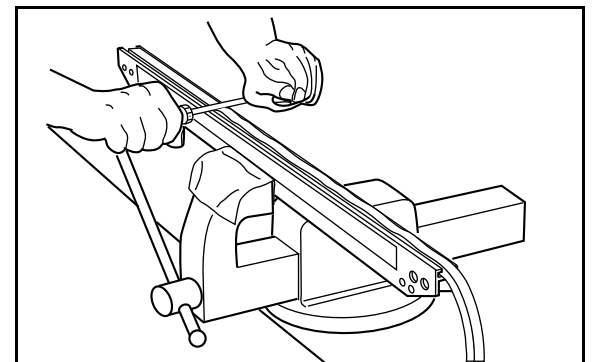

Fig. 20 Press silicon rubber/seal ledge
- 7 When using silicon rubber. Press firmly into groove/channel, chamfer each end at approx 45°. See Fig. 20.